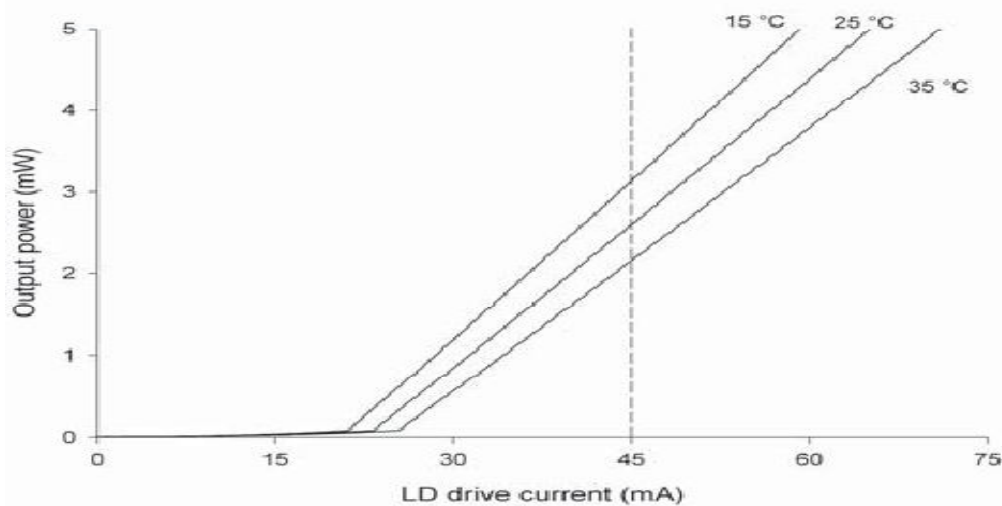

Fig.1 Schematic sketch of the output of a laser diode as a function of drive current.
Diode lasers have been called “wonderful little devices.” They are small and efficient. The laser operation occurs at a p-n junction that is the boundary region between p-type and n-type materials. Such a junction can serve as a rectifying diode for electrical circuits, but it is also the critical region for laser operation. In the neighborhood of the junction, the energy bands undergo a shift. An energy barrier restricts electrons in the conduction band from flowing to the right or holes in the valence band from flowing to the left. Thus the junction has electrical rectification properties. Figure 1 shows the output characteristics of a laser diode as a function of input current. At low values of the input, the device acts as a light-emitting diode (LED), producing a relatively small amount of incoherent light. At a threshold value, where the population inversion is large enough so that gain by stimulated emission can overcome the losses, the coherent light is emitted. As current increases above the threshold value, the light output increases much more rapidly than in the LED region. Ideally, the light output should increase linearly with current, as shown in figure (1).